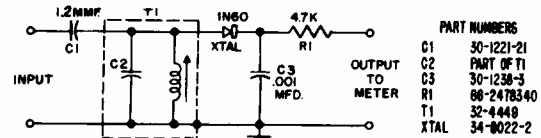

Figure 1. 4.5 mc. Detector Tube
- (1) Inject 4.5 MC AM signal into L8T or use station signal.
- (2) Connect 4.5 MC detector (see circuit, figure 1) to L21T (pin 11 of CRT).
- (3) Connect 20,000 ohms/volt meter, set to 2.5 volt range, to detector output.
- (4) Turn contrast control fully clockwise (to maximum).
- (5) Adjust 4.5 MC trap (top core of T1T) for minimum indication.